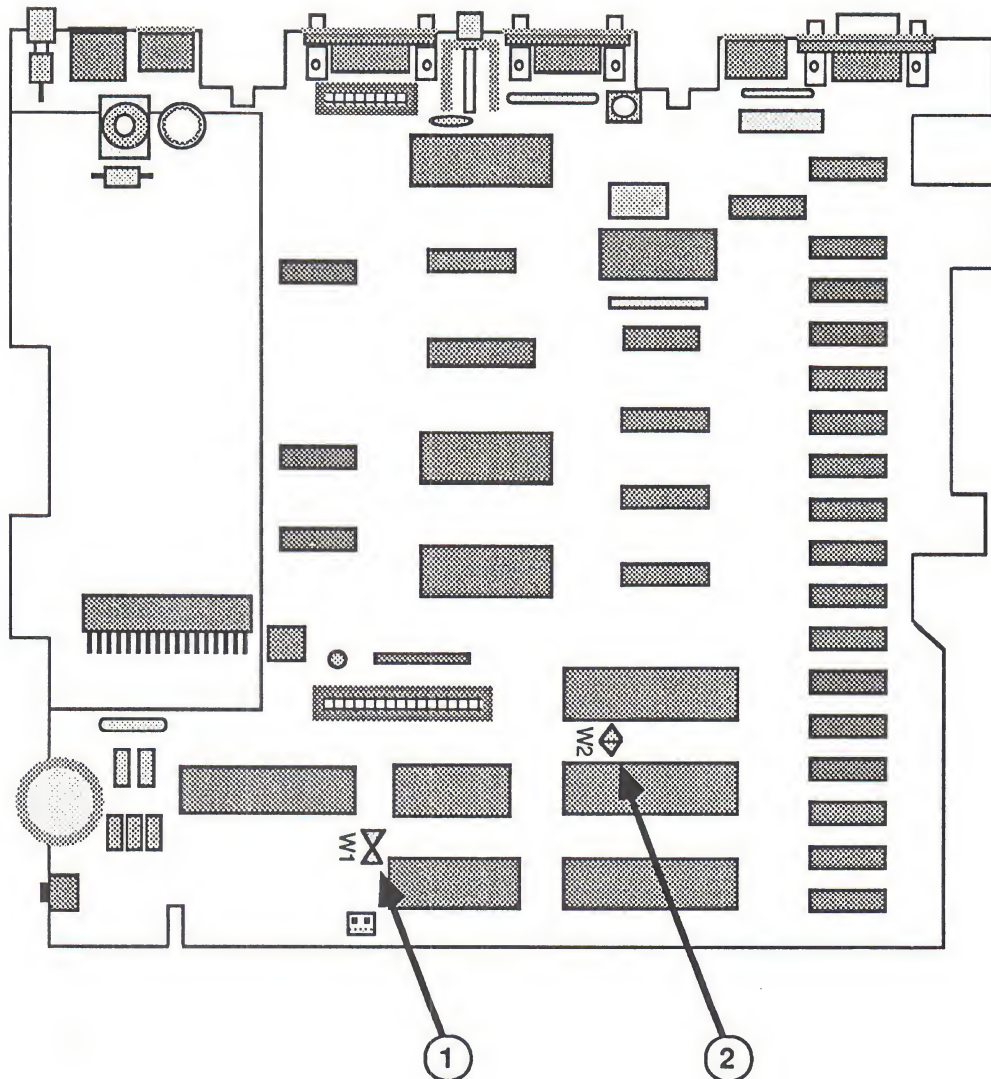
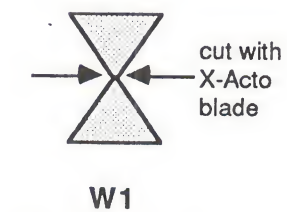
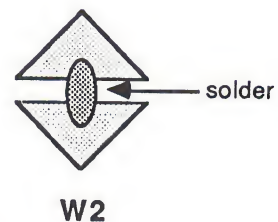

FIGURE 1
FIGURE 2
FIGURE 3
3. Locate the two triangles designated as W1 on the main logic board (Figure 1, #1). Using the X-acto knife, cut through the juncture point of the two triangles, as shown in Figure 2. Be careful not to damage other parts or traces in the vicinity.
4. Locate the two triangles designated as W2 (Figure 1, #2), and connect them with a soldering iron using a small drop of solder, as shown in Figure 3. (Refer to **Soldering Tips**, following this section.)
5. Locate the 28-pin I.C. designated as MON at location D19 on the logic board (Figure 1, #3). Carefully remove the MON I.C. using the I.C. extractor, and replace it with the new ROM. Make sure that pin 1 is oriented correctly by lining up the notch on the end of the I.C. with the white dot at the end of the socket. Make sure all pins are aligned with holes in the socket before applying pressure.